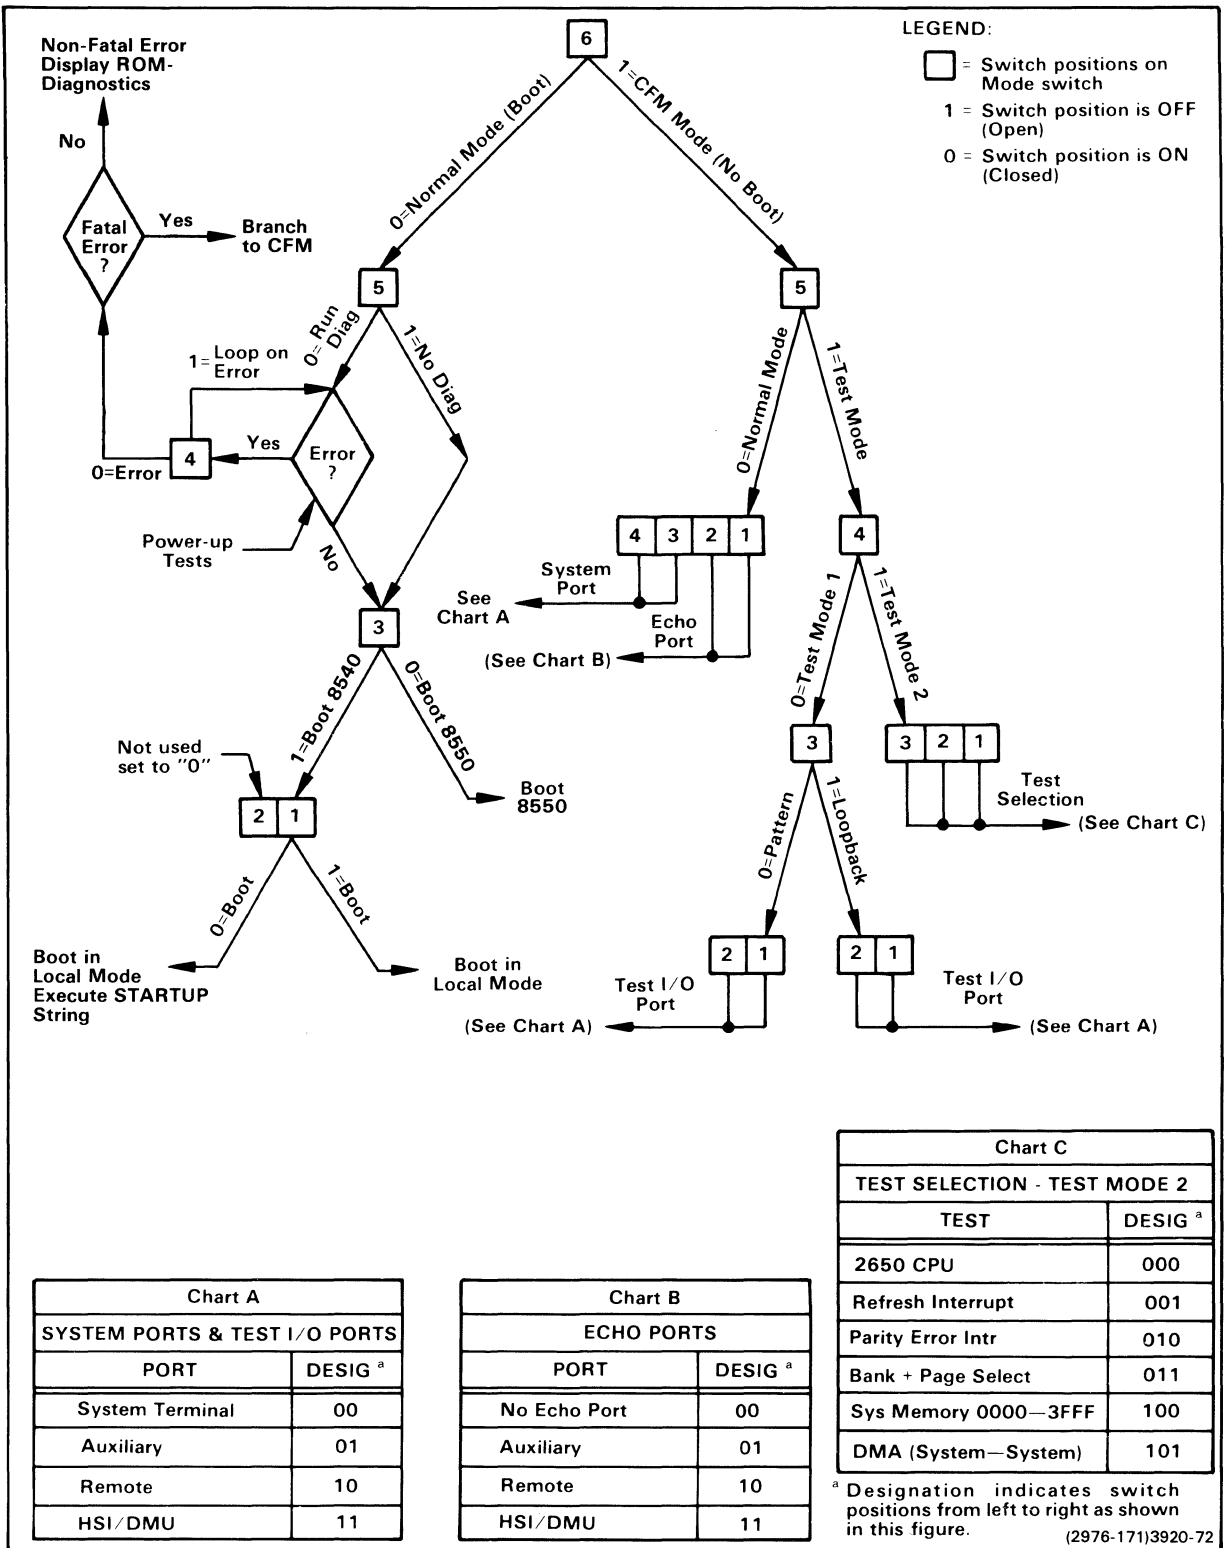
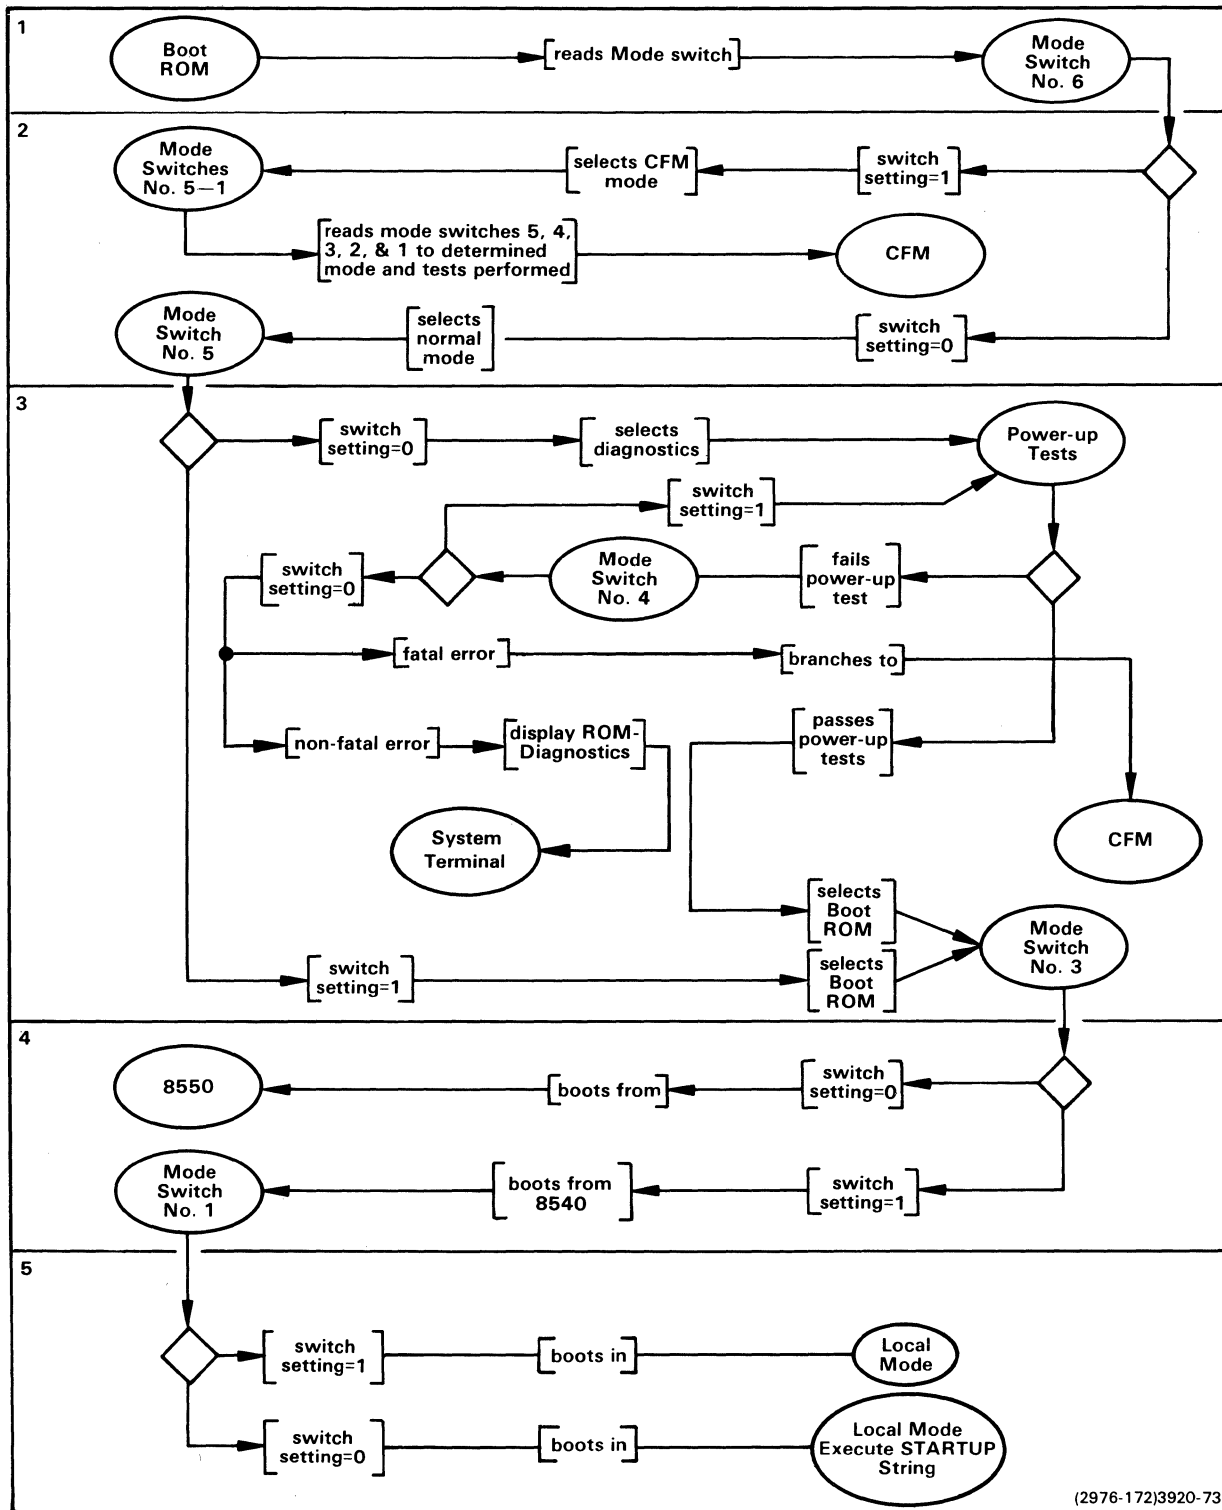

Fig. 15-4. Mode switch decision tree.
Fig. 15-5. 8540 power-up/restart sequence.
Figure 15-4 is a decision tree, showing various options that are available by changing the mode selector switch positions. The following paragraphs frequently refer to Fig. 15-4. This decision tree has two main branches: normal (boot) branch and CFM (no boot) branch. The positions of the mode switches determine the various options available. Switch position 6 is read first, and then the remaining switches are read in a consecutive descending order. Switch position 6 selects one of the main branches shown in Fig. 15-4.
2. When the mode switch position 6 is set to "1" (OFF or OPEN), the full capabilities of the CFM are selected. The CFM user commands can be entered and displayed on a choice of peripherals. This configuration permits the selection of either CFM normal mode, Test Mode 1, or Test Mode 2. Refer to Fig. 15-4.
The power-up/restart sequence is shown in the accompanying flow diagram, Fig. 15-5. The following steps describe this sequence. (Refer also to Fig. 15-4.)
The twelve power-up tests are sequentially executed unless an error is detected during any of the tests. At that time, the program displays an error code on the LEDs and looks at mode switch position 4. If switch position 4 is set to "1", the test loops on the error. If switch position 4 is set to "0", the error is classified as fatal or non-fatal. Refer to Figures 15-4 and 15-5.
There are three sets of LED displays: (Refer to Fig. 15-4.)